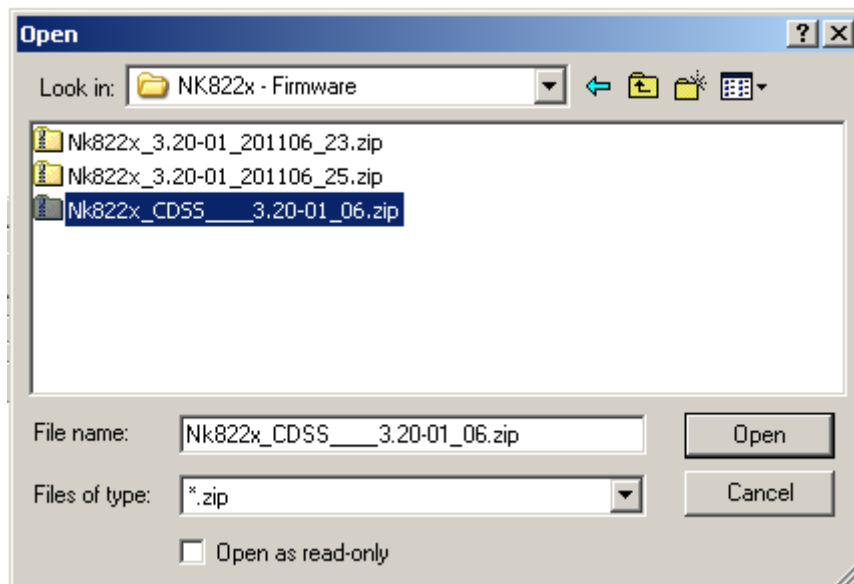

Fig. 12 Opening the new NK82xx firmware files
- And finally click **Open** (Fig. 12).
In case multiple add-on packages have been installed, then all the associated firmware files can be safely downloaded in sequence (each of them being a single additional DLL) as long as the base NK82xx version is the same (e.g. "...3.20..."). Please check the firmware version in the firmware list (Fig. 12) before selecting the file to download. Also, get informed about latest compatibility issues in the most recent NK8000 Release Notes.